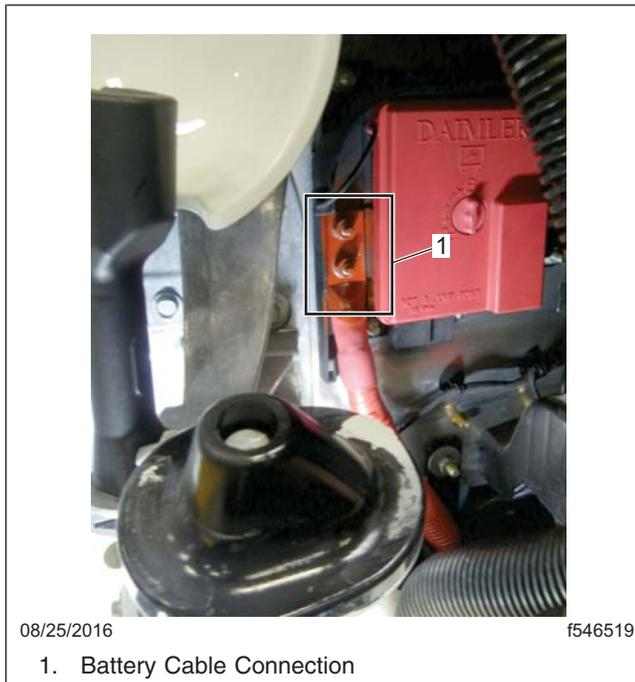
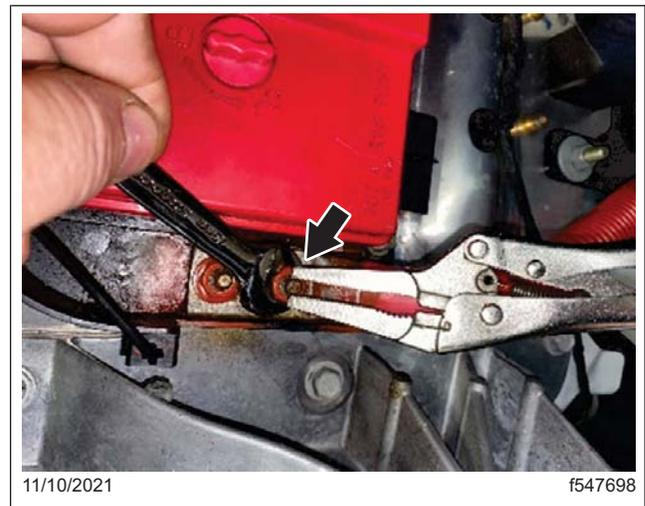

Fig. 9, BCA Battery Cable (Engine-Side Frontwall)
Fig. 10, Holding the BCA Stud
7. While holding the non-threaded tip of the BCA main power exterior stud with vise grip pliers, carefully remove the two nuts from the BCA studs using a hand wrench, then disconnect the positive aluminum battery connection at the BCA. See **Fig. 9** and **Fig. 10**. If any of the BCA studs spin, repair the spinning stud. For instructions, refer to **BCA Spinning Stud Repair** on page 36.